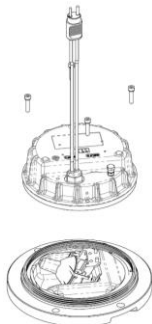
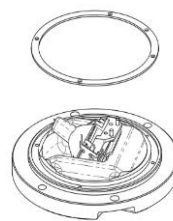

Figure 5-12
Figure 5-13
- Replace the body gasket: Separate the inner cover and upper cover (Figure 5-12) and carefully clean the seal groove. Place the new gasket into the seal groove of the upper cover (pin positioning) in place (Figure 5-13).